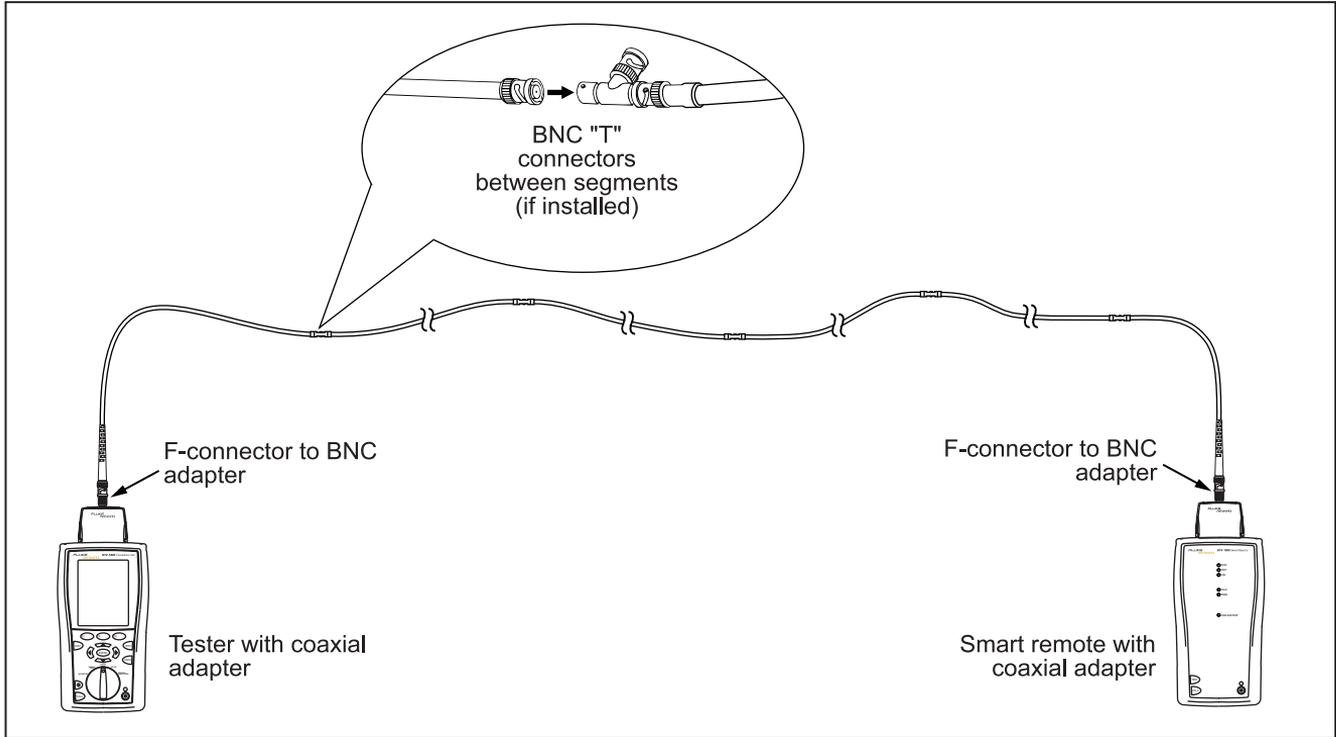
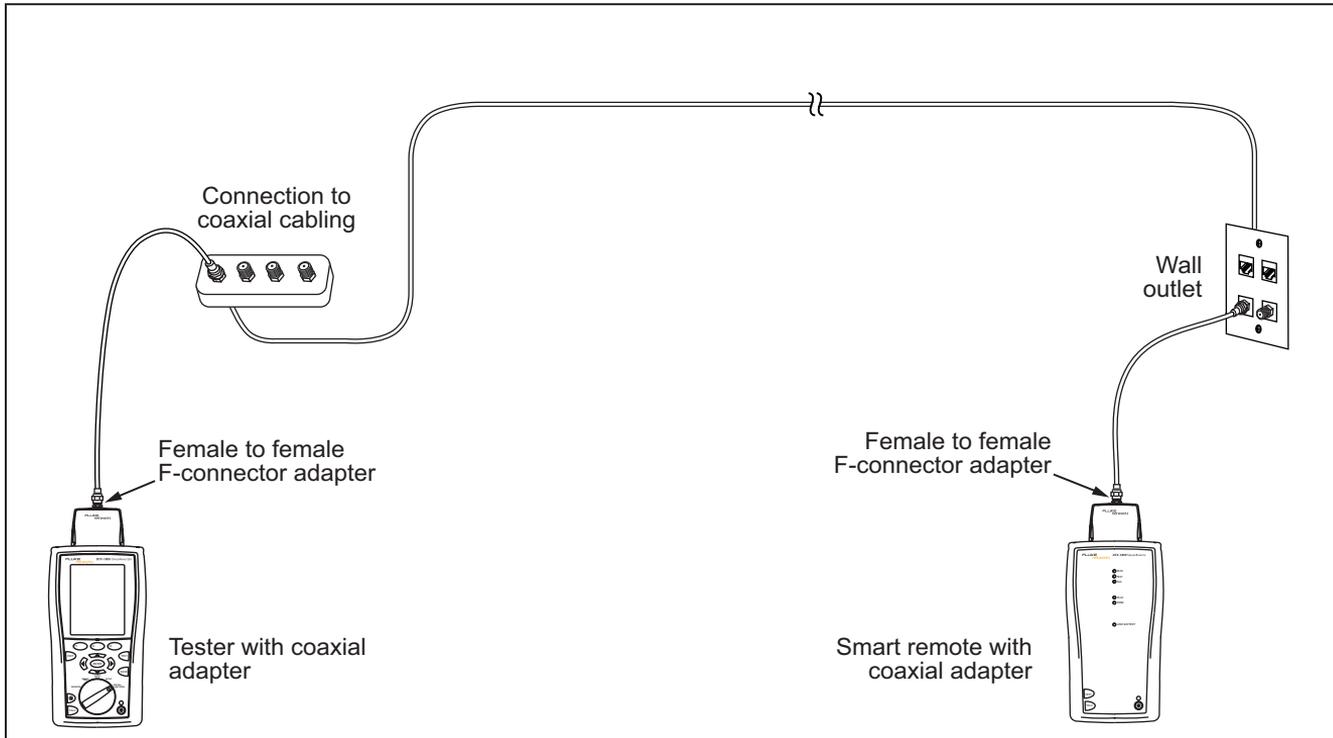

Figure 4-3. Coaxial Network Cabling Test Connections
Figure 4-4. Coaxial Video Cabling Test Connections
- 3 Turn the rotary switch to **AUTOTEST** and turn on the smart remote. Connect to the cabling, as shown in Figure 4-3 for network cabling or Figure 4-4 for video cabling.